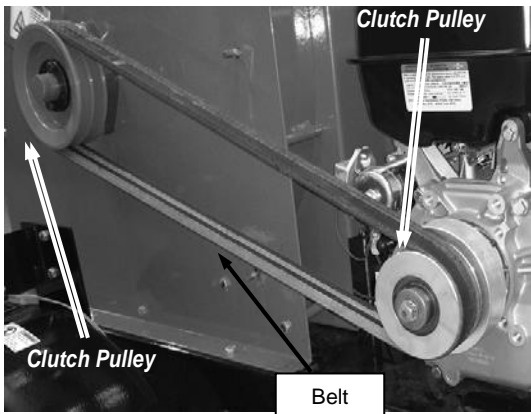

Figure 43
2. Use a 1/2" Wrench to adjust the Belt Tensioner until the Belt is not sagging but not too tight (**Figure 43**).